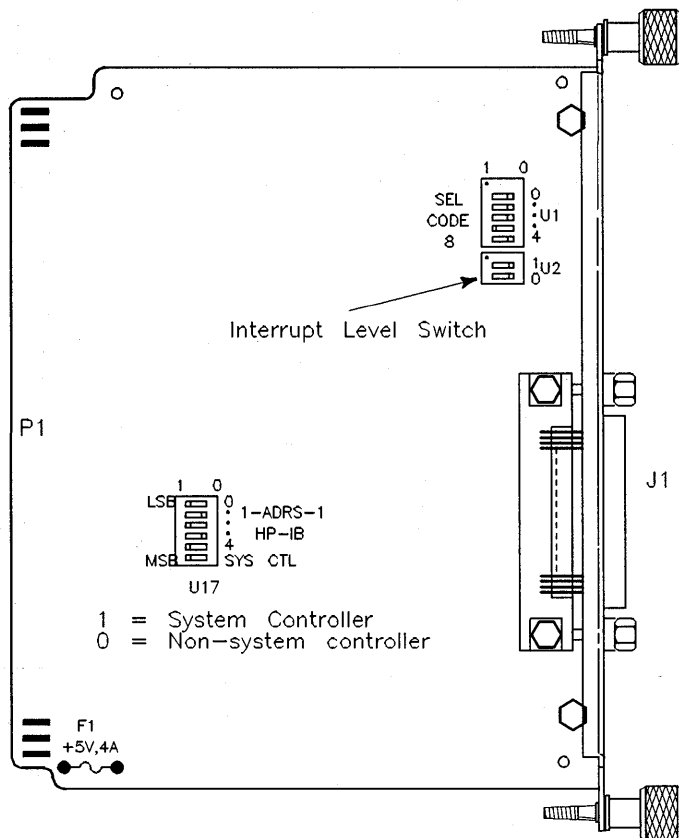

Figure 10-3. HP 98624A HP-IB Interface Switch Locations
Refer to Figure 10-3 for switch locations.
1. Find the set of five switches labeled U1 on the HP-IB Interface (see Figure 10-3). This group of switches determine the interface's select code.
Refer to Figure 10-3 and set the switches labeled U2 according to Table 10-7.
1. If connecting two controllers together via HP-IB, only one of them may be set to address 21. To change the address of this interface, reset switches 0 through 4 in the group of switches labeled U17 as shown in Figure 10-3.
2. If connecting two controllers together via HP-IB, only one of them may be set to system controller. To change this interface to non-system controller, move the SYS CTL switch shown in Figure 10-3 to the 0 position (the opposite of that shown).